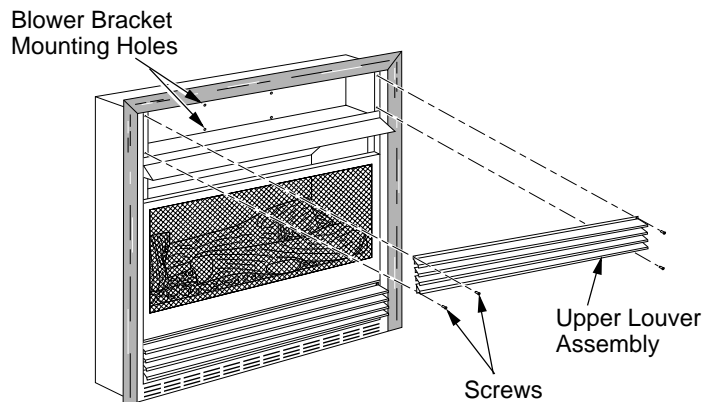
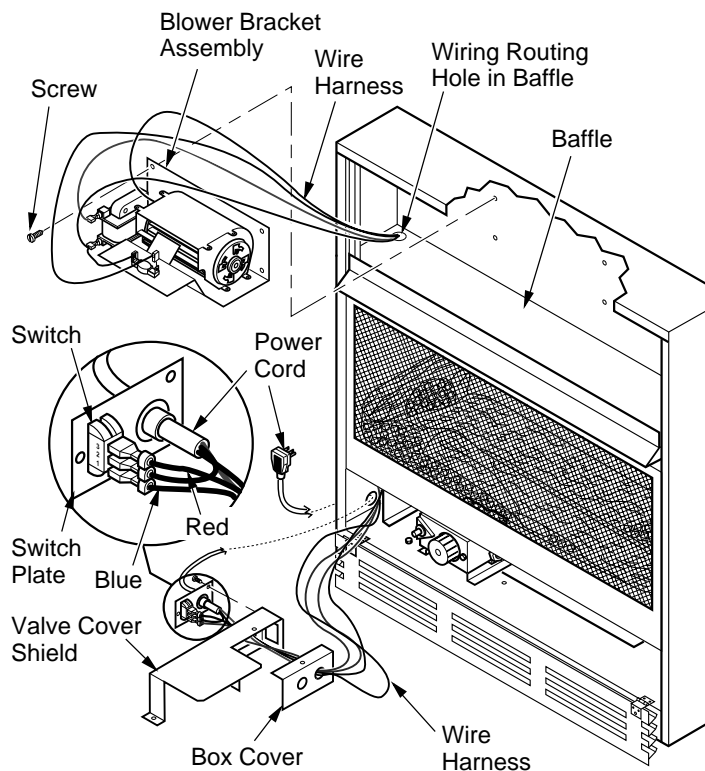
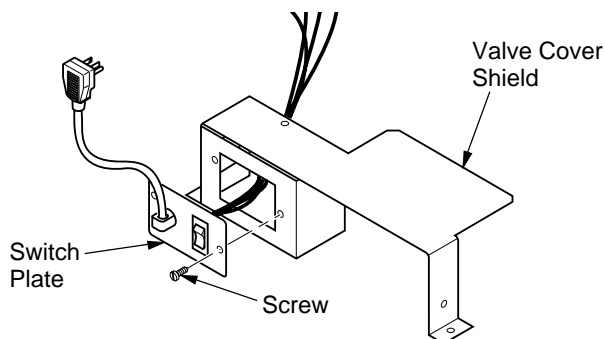

Figure 16 - Removing Upper Louver Assembly
Figure 18 - Installing Blower Bracket Assembly
Figure 19 - Installing Switch Plate to Valve Cover Shield
- Remove 4 screws from louver assembly (see Figure 16). Save these screws.
3. Note the wire locations on back of AUTO/OFF/ON switch. The terminals on back of switch are numbered 1, 2, and 3. Carefully remove red wire from terminal 1 and blue wire from terminal 3. Black wire can remain on middle terminal 2 (see Figure 18).
5. In top of the heater cabinet, locate the four mounting holes on the outer casing. Align these four holes with those on the blower bracket assembly. Attach blower bracket assembly to the outer casing with 4 #10 screws provided (see Figure 18).
6. Route the wire harness through the hole in left side of baffle. Pull wire harness through lower opening above where the valve shield was removed. (see Figure 18).
7. Insert the 4 wire harness into one of the round holes in the rear of the valve cover shield and through the rectangular hole in the front of shield (see Figure 18).
- Install the switch plate on the valve cover shield with 2 #10 screws provided (see Figure 19). Reinstall the valve cover shield. Route power cord out of the cabinet by inserting it through the bushing on the outer casing (see Figure 18, page 12). Plug fan kit into 120-Volt grounded power supply and test operation. **Note:** When switch is in the AUTO position, the fan will start after the heater has run for a few moments. The fan will continue to run for several moments after the heater has been turned off. When switch is in the ON position, the fan will run until turned to OFF. Reinstall upper louver assembly and hood if previously removed, (see Figure 16, page 11). Close lower louver door.
- Reinstall upper louver assembly and hood if previously removed, (see Figure 16, page 11). Close lower louver door.